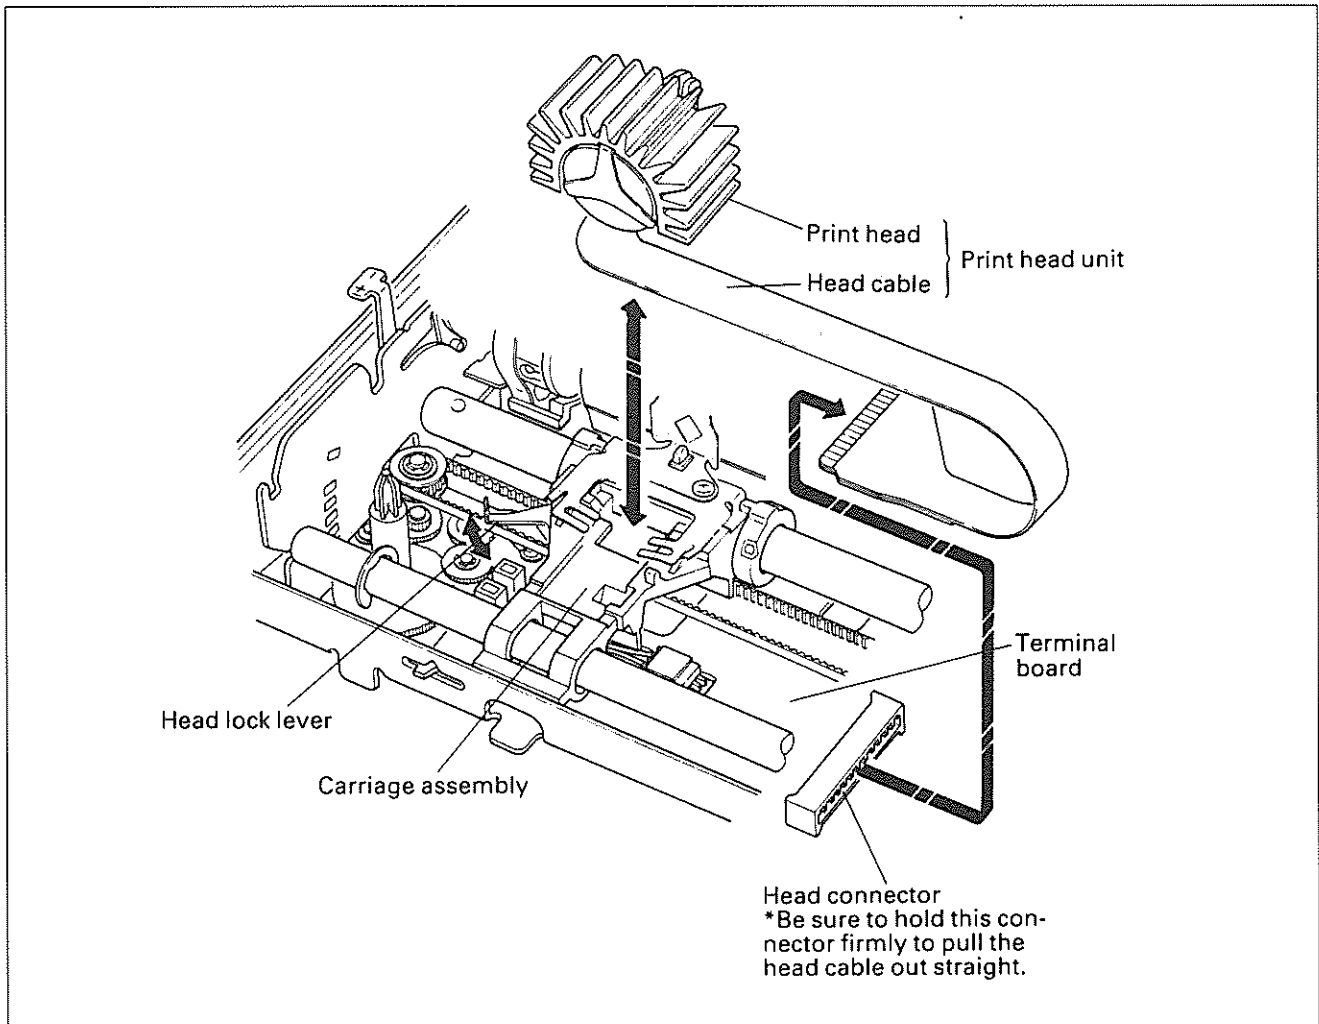

Fig. 4-18. Removal of Print Head Unit
4.3.3.2 Removal of Print Head Unit (Fig. 4-18)